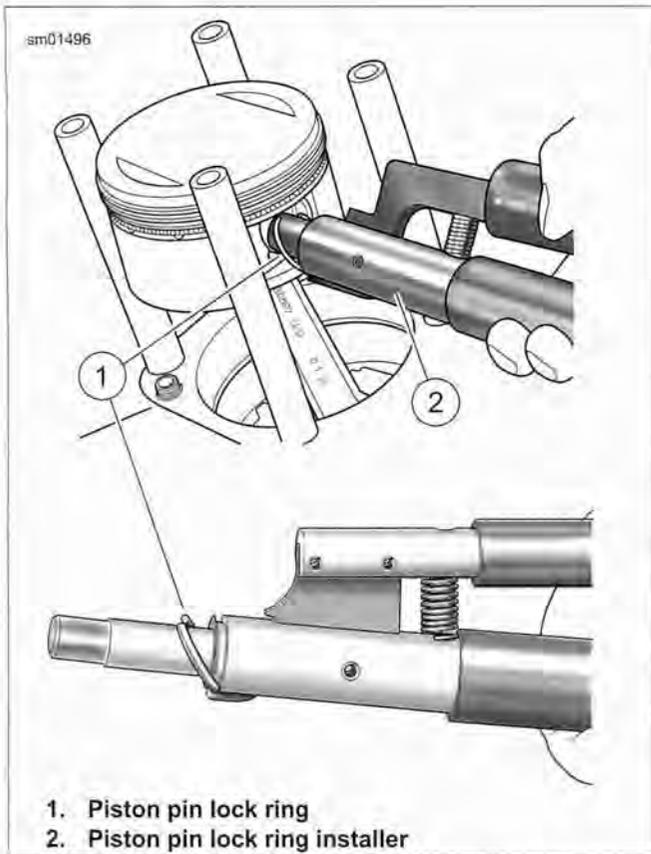

Figure 3-48. Removing Piston Pin Lock Ring
- See Figure 3-48. Remove piston pin lock ring as follows: